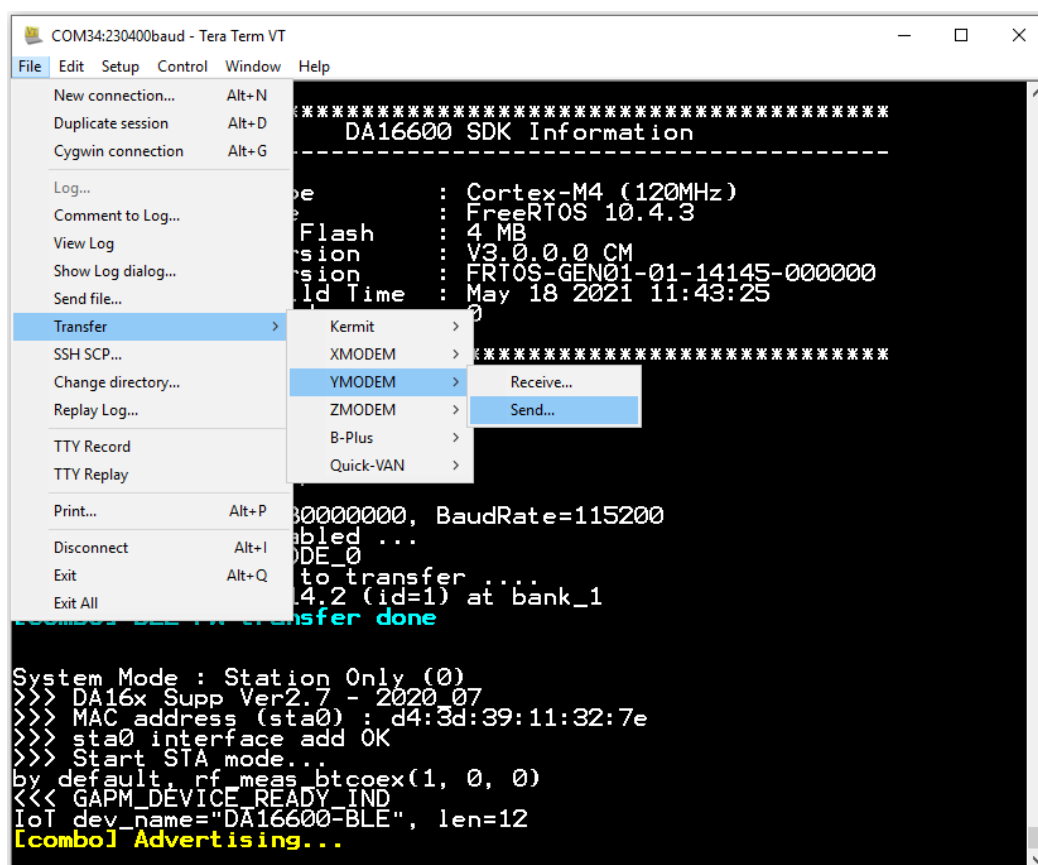

Figure 10: Tera Term
3. Go to **File > Transfer > YMODEM > Send** to quickly find file DA16600_FBOOT-*.img, see Figure 10. These shortcut keys can be used: keep the **Alt + F** and **T, Y, S**.